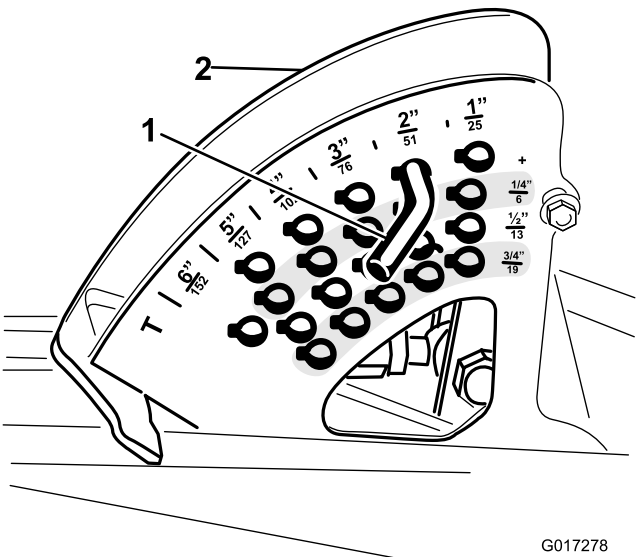

Figure 3
3. Note the location of the HOC pin in the HOC bracket for assembly purposes (Figure 3). Remove the HOC pin from the HOC bracket.
6. Install the HOC pin into the HOC bracket at the desired height of cut (Figure 3).